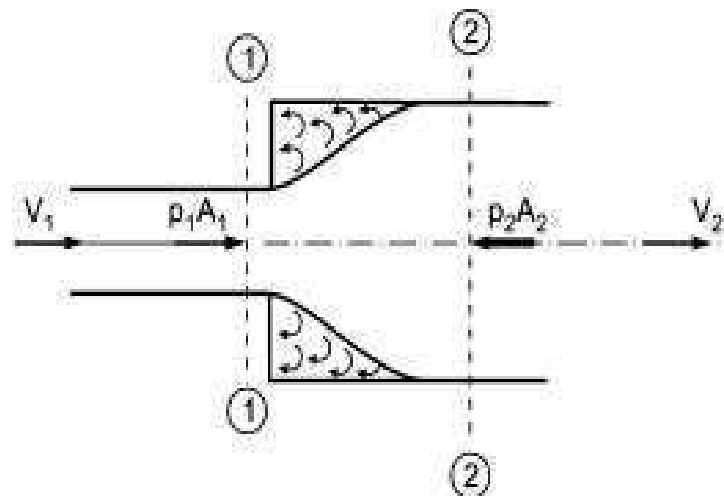

Fig. 11.1 Sudden enlargement.
11.4.1 Loss of Head Due to Sudden Enlargement. Consider a liquid flowing through a pipe which has sudden enlargement as shown in Fig. 11.1. Consider two sections (1)-(1) and (2)-(2) before and after the enlargement.